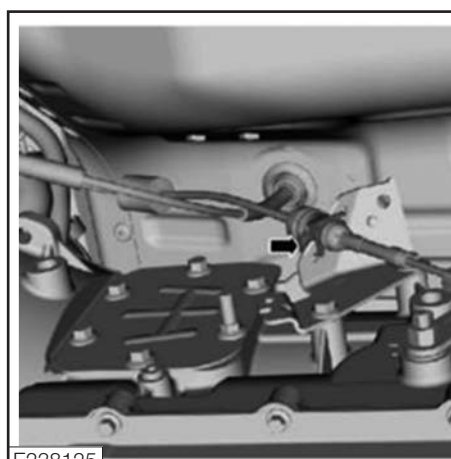

Figure 95
5. Remove the clip and the selector lever cable (**Fig. 95**).